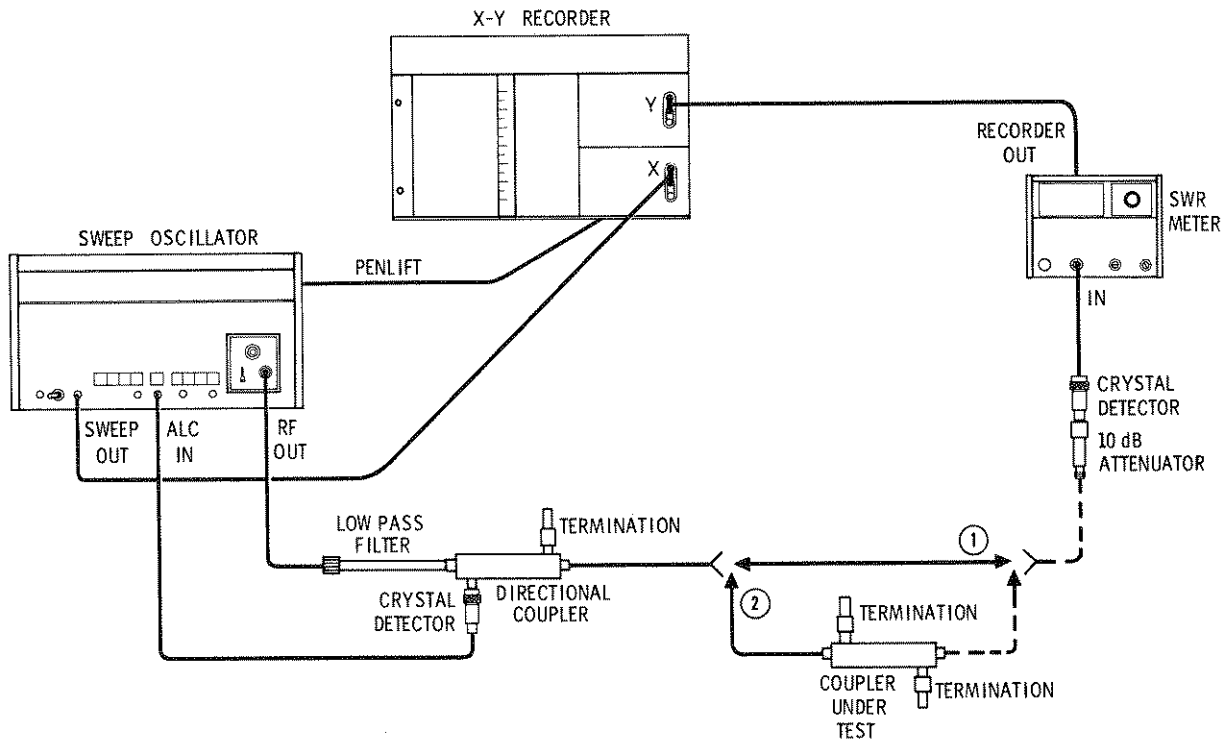

Figure 13. Insertion Loss Test Setup
To test a 774D use another good 774D as the directional coupler in Figure 13. To test a 775D use a good 775D.
- a. Connect the equipment as at ① in Figure 13.
1. Connect the coupler under test as shown at (2) in Figure 13.